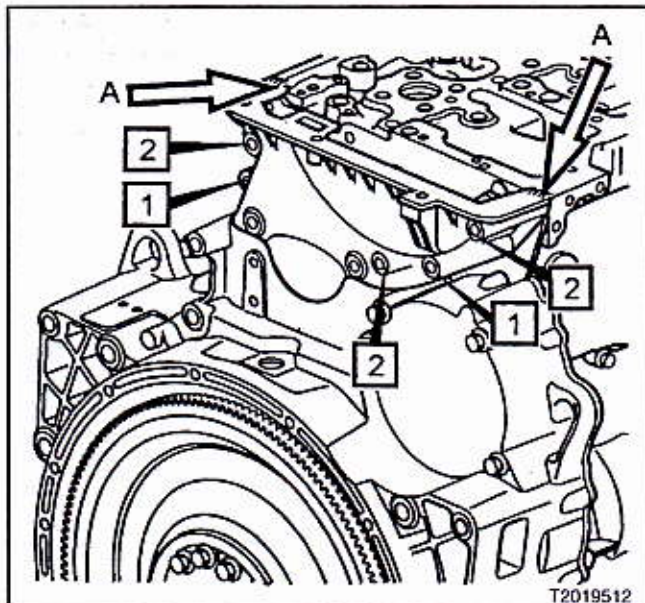

**Figure 455 — Timing Gear Cover Installation**
17. Place the timing gear cover in position on the engine. Install two capscrews (item 1 in Figure 455) and hand tighten.
18. Using alignment tools, 85111422A and 85111422B, ensure that the upper and lower seals are properly seated and that the upper surface of the cover is flush with the top of the cylinder head (points A in Figure 455).
19. Install the three remaining capscrews (item 2 in Figure 455) and tighten to specification.